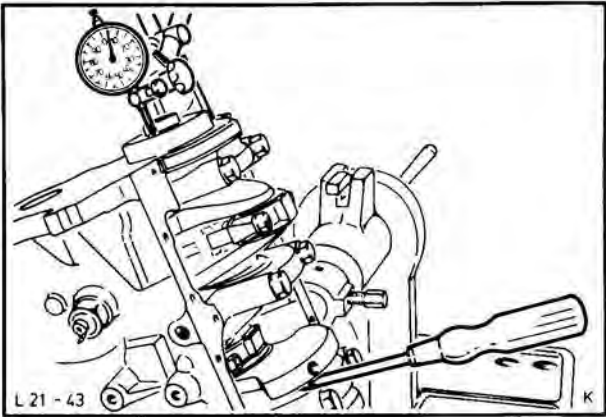

Fig. 100. Check crankshaft end-float
34. Check crankshaft end-float with a standard dial indicator, Fig. 100, and correct using thrust washers (see Technical Data).